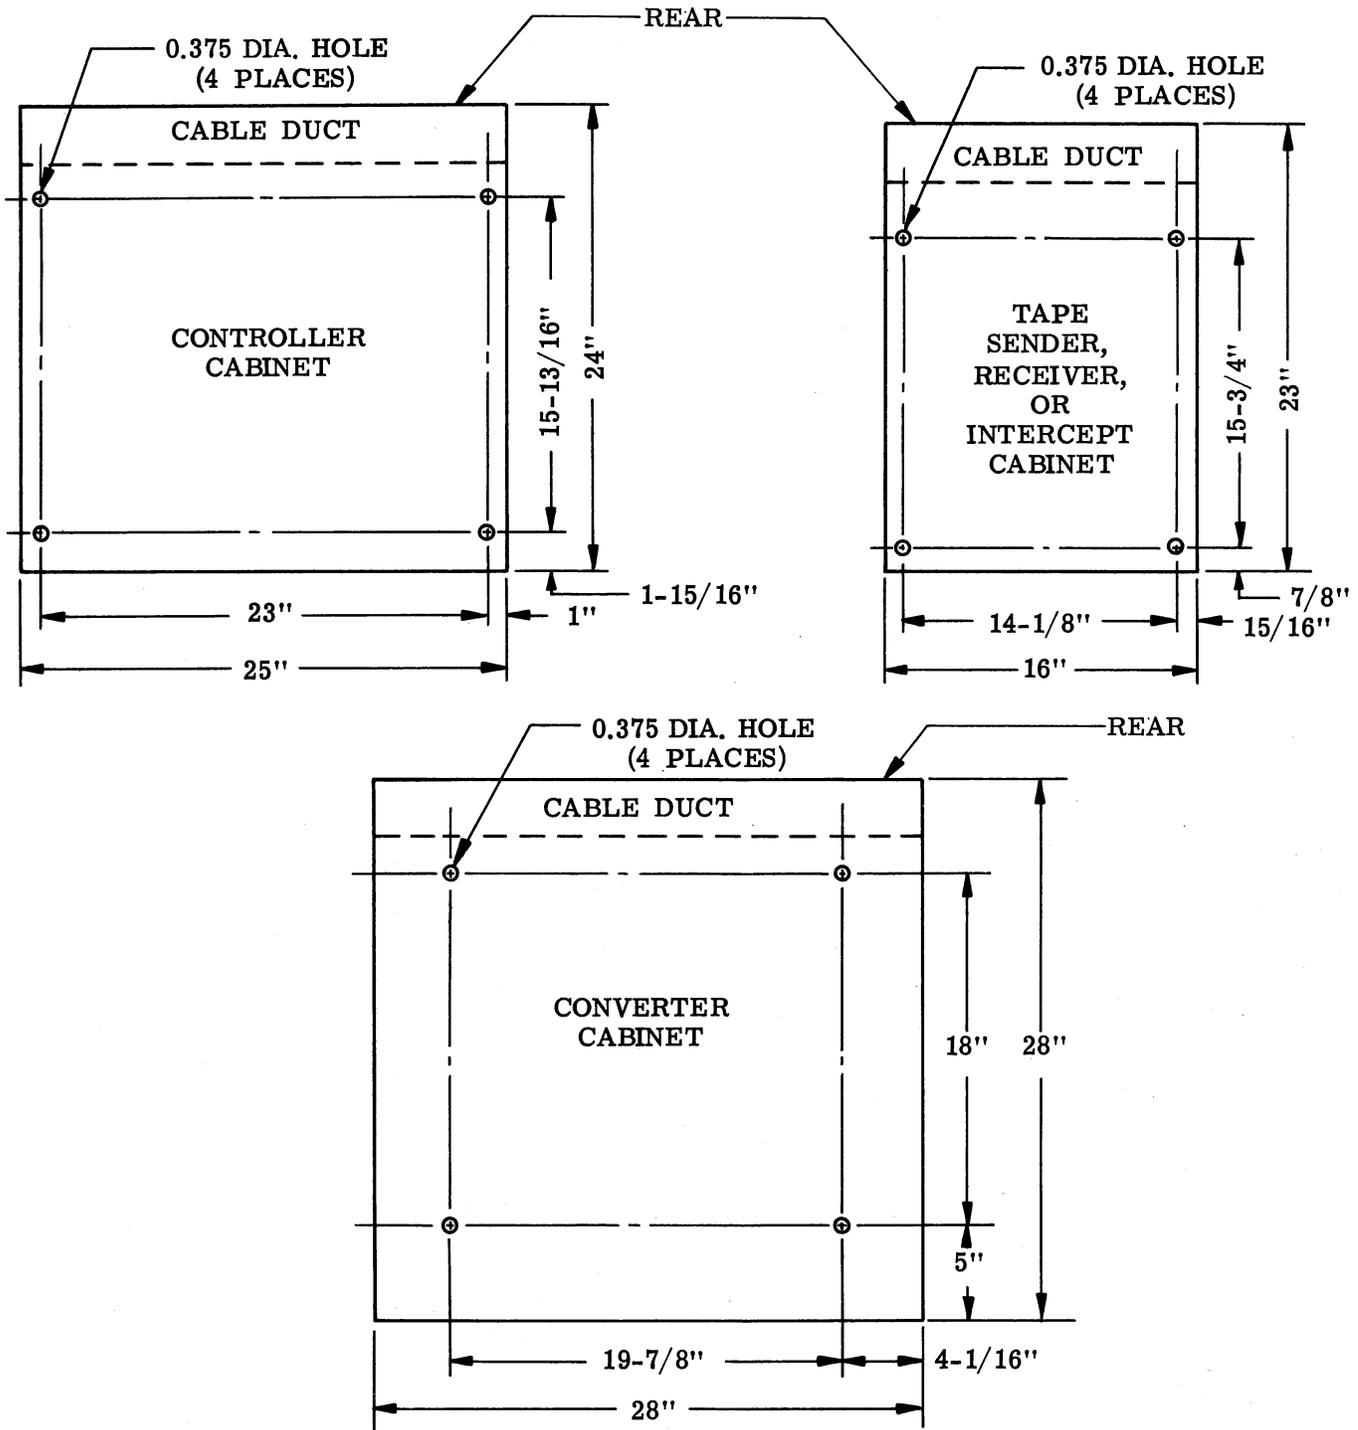
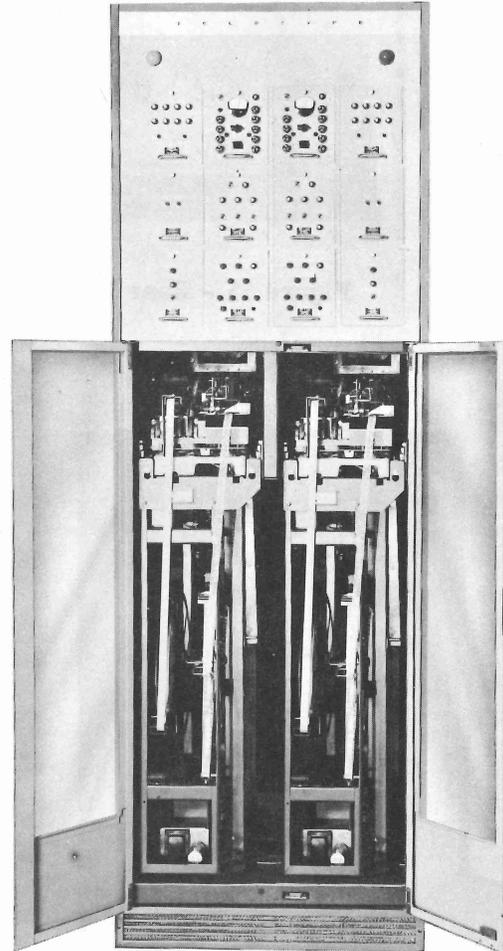
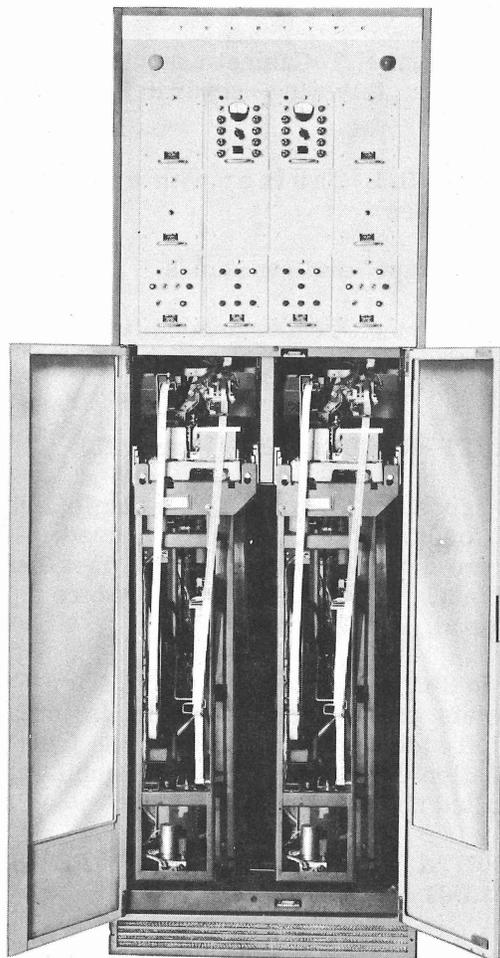
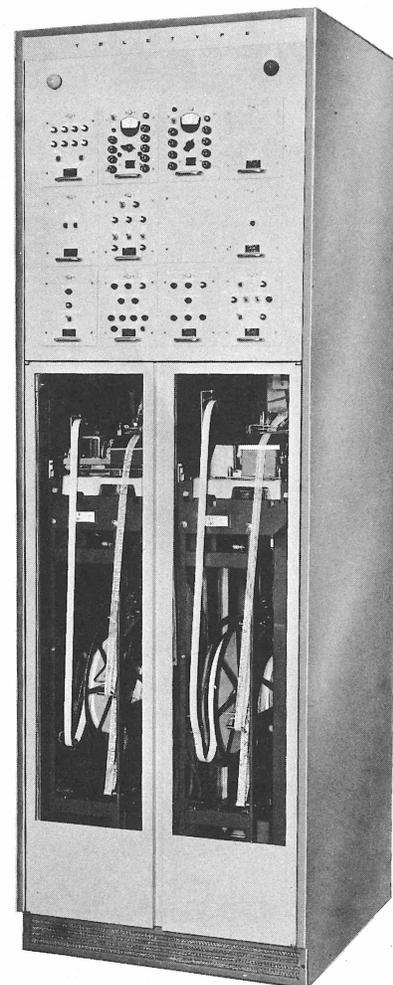

Figure 4 - Cabinet Mounting Hole Locations
Figure 15 - Dual Low-to-High Speed Converter
Figure 16 - Dual High-to-Low Speed Converter
Figure 17 - Combination Converter Cabinet
4.02 After a station layout is prepared, install appropriate anchors in the floor for bolting the cabinets in place. For convenience, the locations of the mounting holes are given in Figure 4.
5.01 The Station Controller should be leveled and bolted in its station layout position before the electronic modules are installed. Refer to Figure 4, and use suitable anchor bolts to secure in position. To gain access to the rear of the cabinet, loosen the single screw at the top and lift the panel out.
7.03 The cabinet should be permanently mounted to the floor to avoid lateral movement before system connections are made. Using the diagram in Figure 4, install appropriate anchors in the floor. Position the cabinet, and bolt securely.
8.01 After unpacking the cabinet, compare the location of the modules with Figure 15 for Single L/H and Dual L/H, with Figure 16 for Single H/L and Dual H/L, and Figure 17 for the Combination Converter Cabinets. Use the diagram in Figure 4 and install appropriate anchors in the floor.